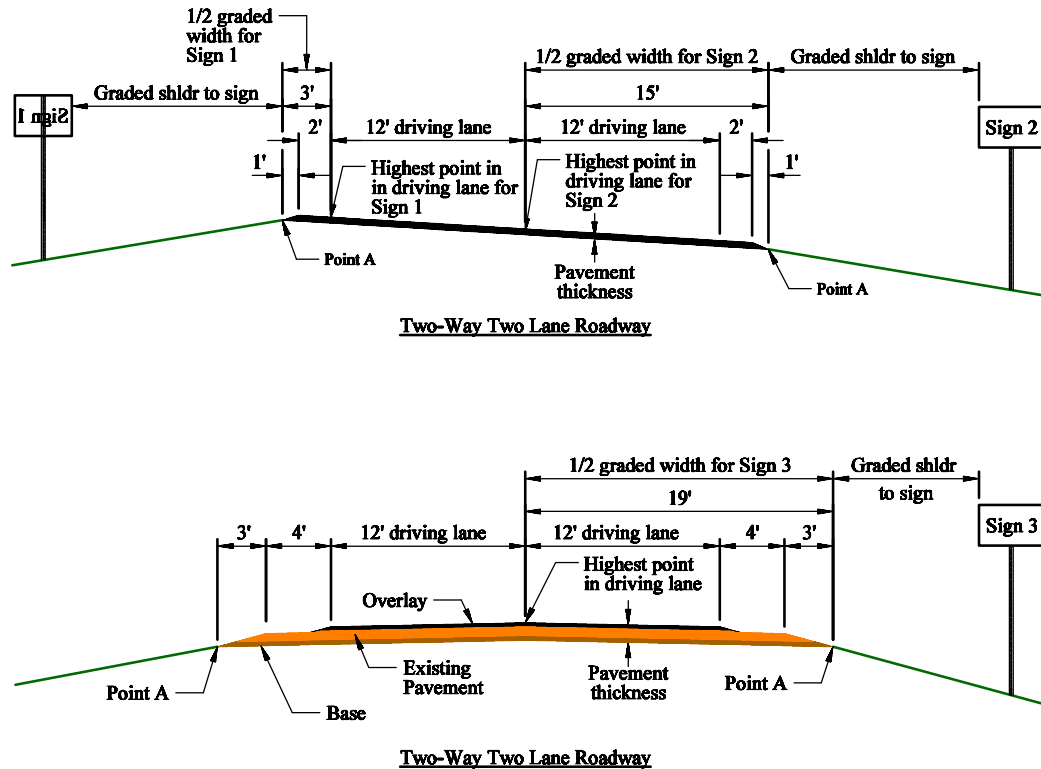

Figure 20 – Graded Width Examples for Perforated Tube Supports
40. **Graded Width**{ XE "Graded Width" \b }: The graded width is double the distance, in inches, from the highest point in the driving lane(s), which pertains to the sign, to the point where the bottom of the pavement depth intersects the inslope (Point A in Figure 20.) The program assumes that the roadway is symmetrical and if it is not, it has to be adjusted as shown in the examples below. For Sign 1, the graded width is calculated as $3' \times 2 = 6'$ or 72".
41. **Graded Shldr to Sign**{ XE "Graded Shldr to Sign" \b } : The distance, in inches, from the edge of the graded width{ XE "graded width" \b } to the edge of the sign(s) closest to the roadway. For example, the graded shoulder to sign distance for Sign 3, in Figure 20, can be calculated as 18' (the minimum required horizontal distance, see ND Standard Drawing D-754-23) minus 4' (shoulder width) minus 3' (distance from the shoulder to Point A.) Therefore, the graded shoulder to sign distance for Sign 3 is 11' or 132".